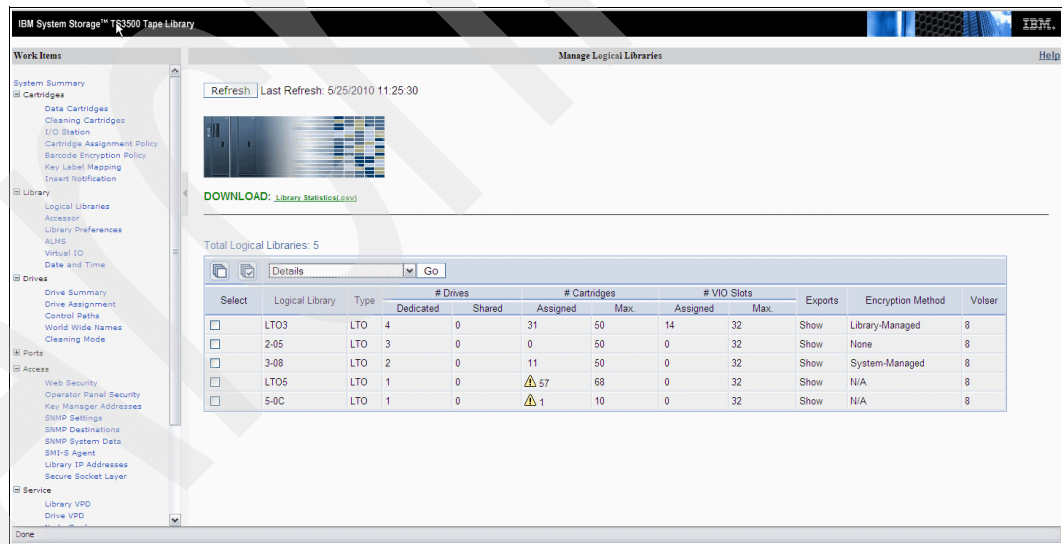

Figure 3-17 TS3500 Logical Libraries
2. Select **Library** → **Logical Libraries**. The Manage Logical Libraries window displays (Figure 3-17). For each logical library, the Encryption Method column indicates whether encryption is library-managed, system-managed, application-managed, is assigned no method (None), or is unable to be set (N/A).